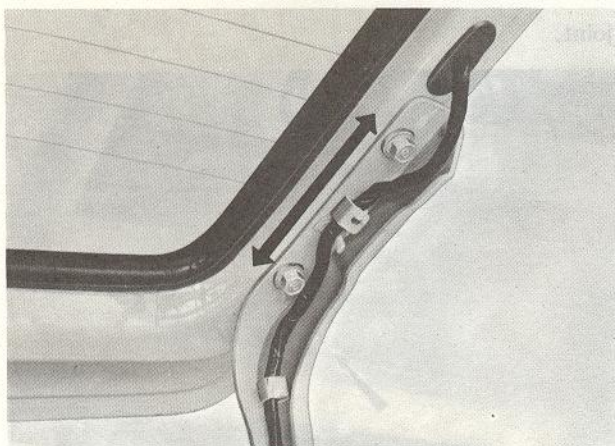

Fig. 14A-7 Adjusting up-and-down
3. Adjust the back door for closing, by moving the back door lock striker as shown in Fig. 14A-8, or inserting the shims of proper thickness between the striker and the body.